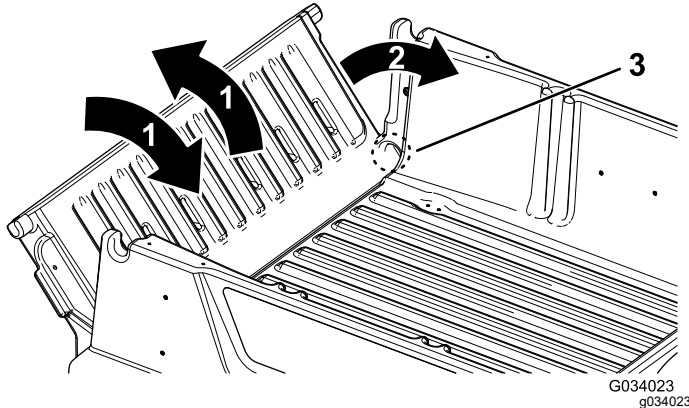

Figure 23
2. Rotate the tailgate to approximately the 45° position (Figure 23).
3. Use a short, shaking motion to rotate the tailgate back and forth several times (Figure 23).